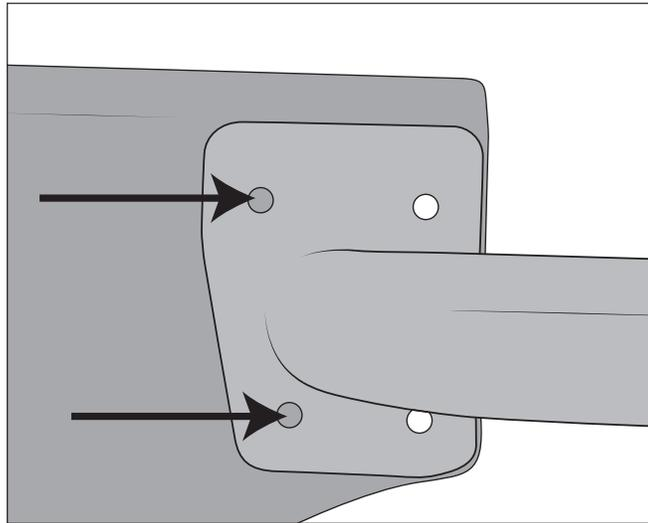

Figure 1
1. Using the two front holes on the Corner Guard Rail and the existing two holes in the Corner Guard, mark the locations for the two rear mounting holes on the Corner Guard Rail (fig. 1). NOTE: If AEV Rear Corner Guards have previously been installed, they will need to be removed.